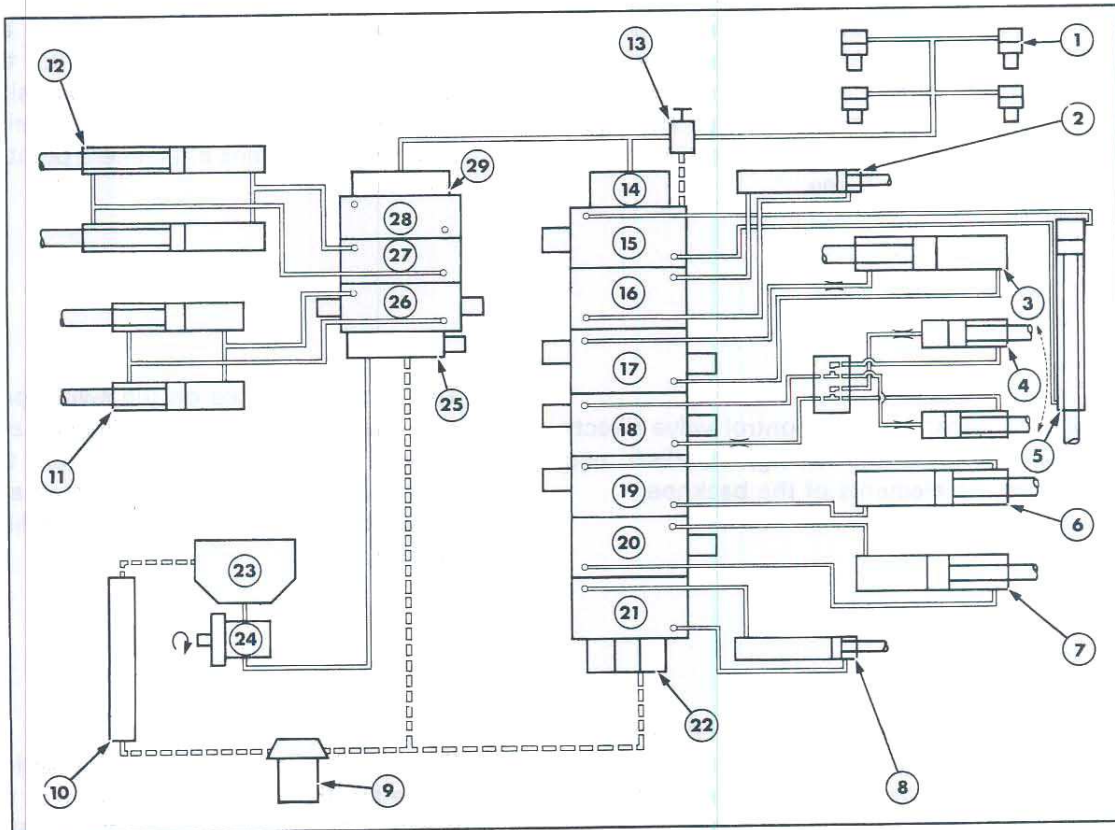

Figure 4
- Figure 4 and 5 shows the complete hydraulic circuit in schematic form. Note that the centre pivot model in schematic form has slight differences in the swing circuitry. These differences are fully detailed in Chapter 7.